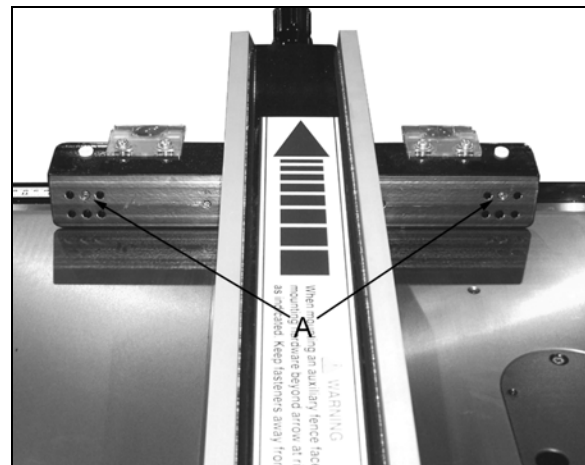

Figure 8
3. If the fence is not parallel to the miter gauge slot, lift the fence off the guides and place it on the table as shown in Figure 8. Turn the appropriate screw, A to compensate for the difference. Place the fence back on the guides and check again for alignment to the miter gauge. If it is still mis-aligned, repeat the procedure.